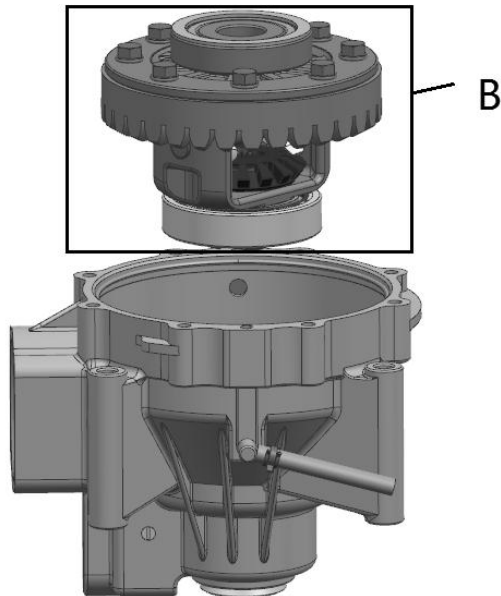

Fig 5
6. Remove the differential assembly (B) from the housing.. →Fig 5